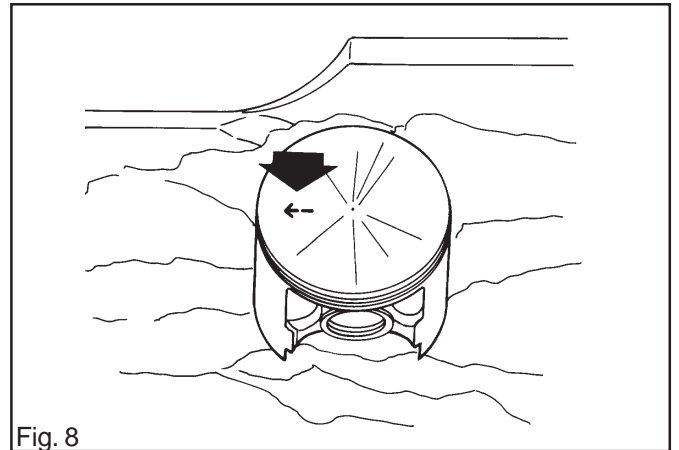

Fig. 8
2. Replace the piston with the arrow facing the exhaust port. See fig. 8. Slide in the gudgeon pin and fit the circlip.
- 3. That the bearing surfaces for the little-end do not have any score marks or are discoloured. See fig. 8.